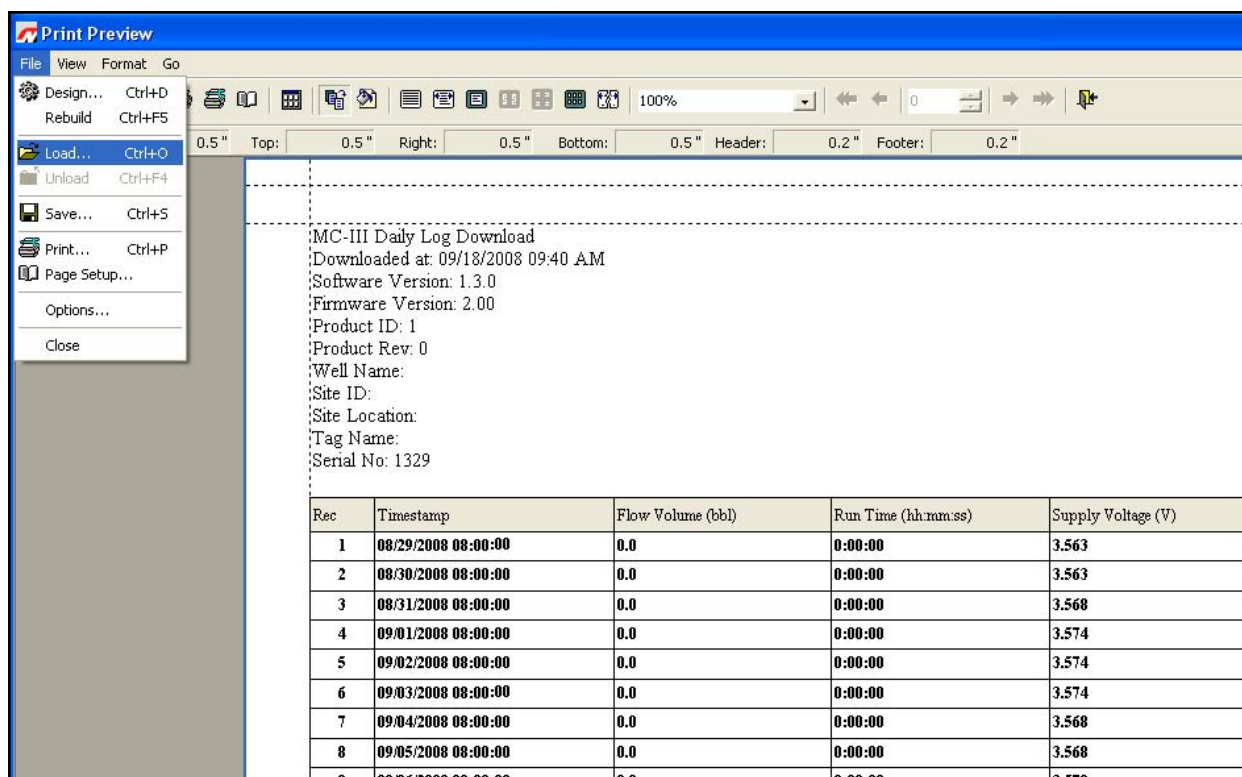
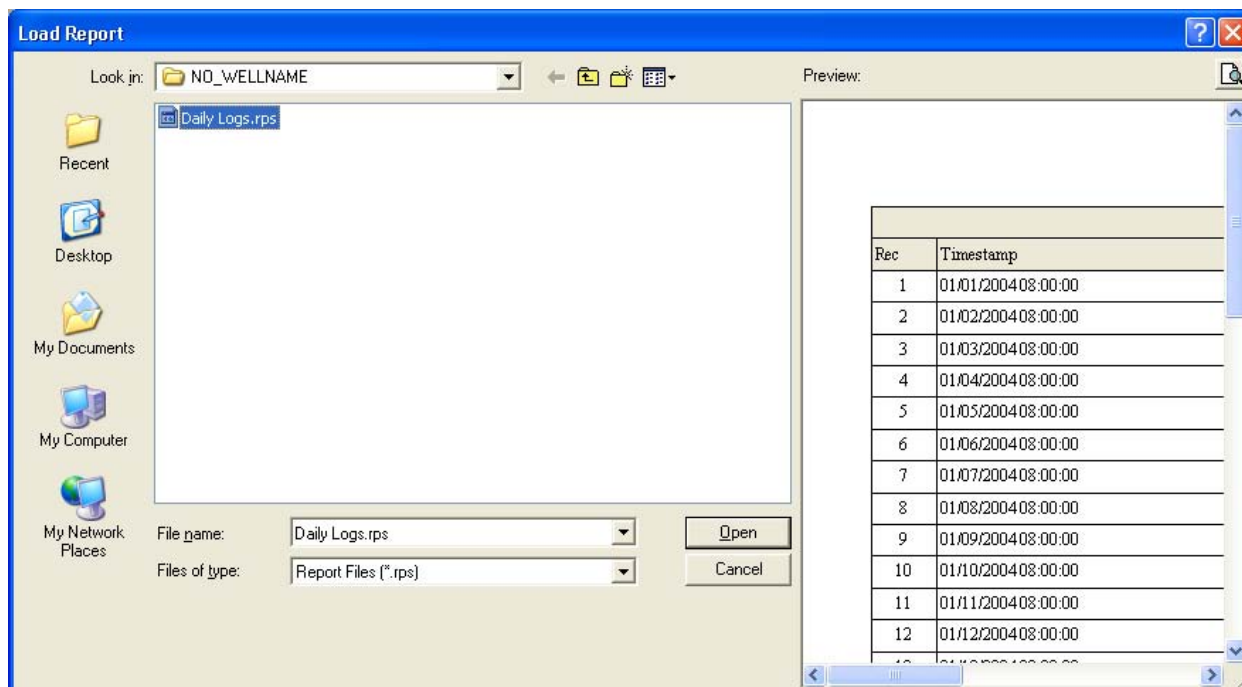

Figure 5.10—Menu for loading a saved report
Figure 5.11—Load Report screen for viewing saved flow log reports
2. Select File>Load from the task bar at the top of the page (Figure 5.10, page 82). A Load Report window will open (Figure 5.11, page 82).